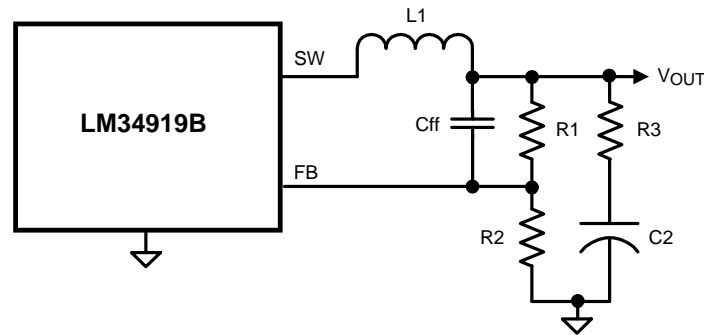

Figure 32. Reduced Ripple Configuration
a) Reduced ripple configuration: In Figure 32, C_{ff} is added across $R1$ to AC-couple the ripple at V_{OUT} directly to the FB pin. This allows the ripple at V_{OUT} to be reduced to a minimum of 25 mVpp by reducing $R3$, since the ripple at V_{OUT} is not attenuated by the feedback resistors. The minimum value for C_{ff} is determined from: